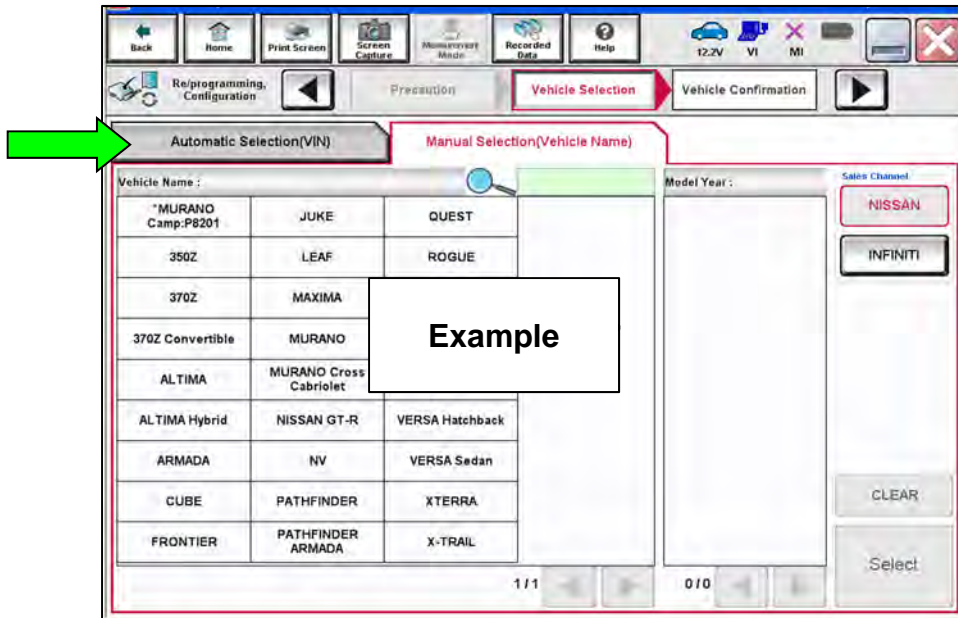

Figure 234
221. If the screen in Figure 234 displays, select **Automatic Selection(VIN)**.
- If the screen in Figure 234 does not display, continue to step 222.